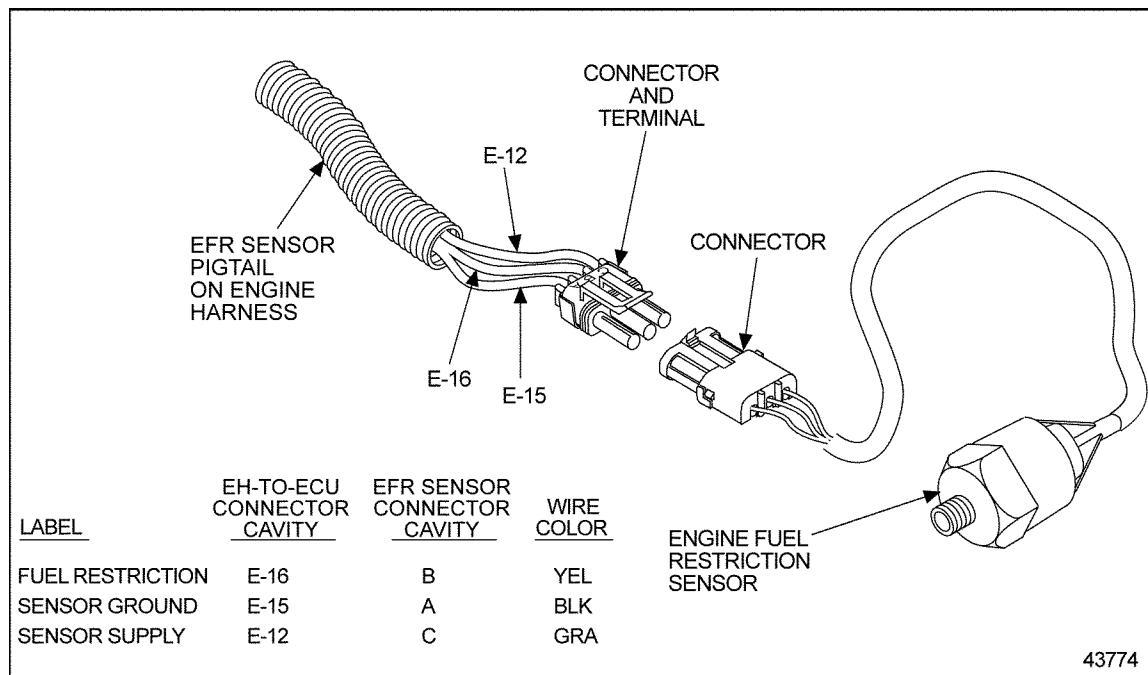

Figure 40-2 FRS/Fuel Restriction Sensor
3. Install a jumper wire between pins A and B of the FRS/Fuel Restriction Sensor harness connector. See Figure 40-2.